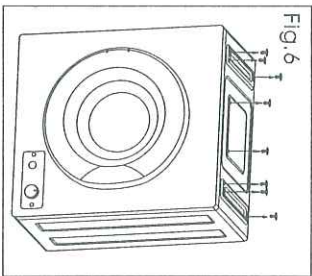
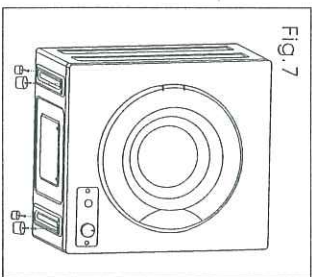

Fig. 6
Fig. 7
1) Take off the rubber plugs on the top of the unit (as per Fig. 6). Then take off the four legs from the bottom (as per Fig. 7).